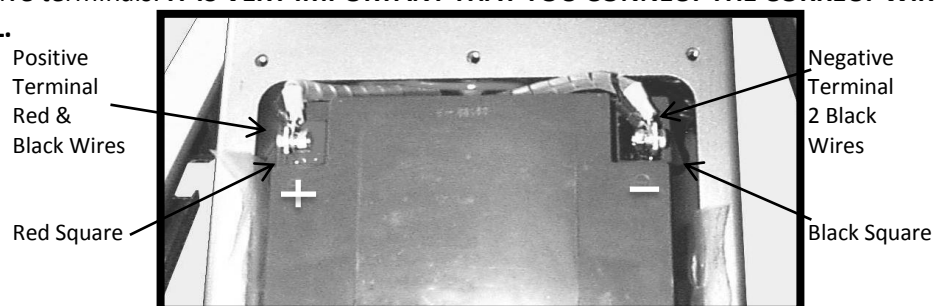

Figure 16: Battery Terminals
CAUTION: The positive terminal is marked with a red square (Figure 16). The negative terminal is marked with a black square. Also, a positive sign (+) and a negative sign (-) are molded onto the battery near the respective terminals. **IT IS VERY IMPORTANT THAT YOU CONNECT THE CORRECT WIRES TO EACH TERMINAL.**
2. Attach the red and black (with red marker) wires to the positive terminal using the screw, lockwasher, and nut (Figure 16). Route the wires from the terminal directly into the battery compartment so that they will not be trapped under the battery cover. Tuck the red wire down along the side of the battery.
7. Attach the red and black (with red marker) wires to the positive terminal using the screw, lockwasher, and nut (Figure 16). Route the wires from the terminal directly into the battery compartment so that they will not be trapped under the battery cover. Tuck the red wire down along the side of the battery.